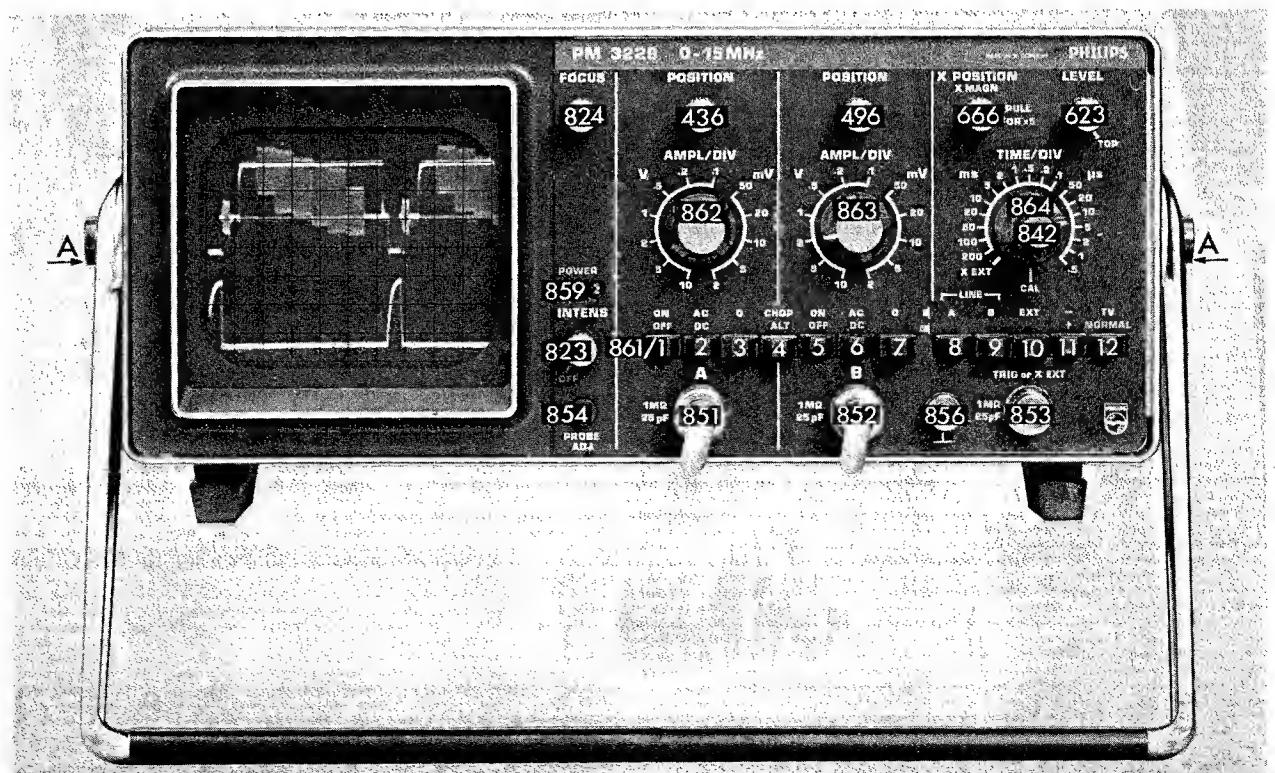

Fig. 2.2. Front view showing controls and sockets
The instrument may be used horizontally or in several sloping positions by employing the carrying handle as a tilting bracket. To release the handle, push both pivot centre buttons A (see Fig. 2.2).
**2.1.6. Controls and sockets (Fig. 2.2)**